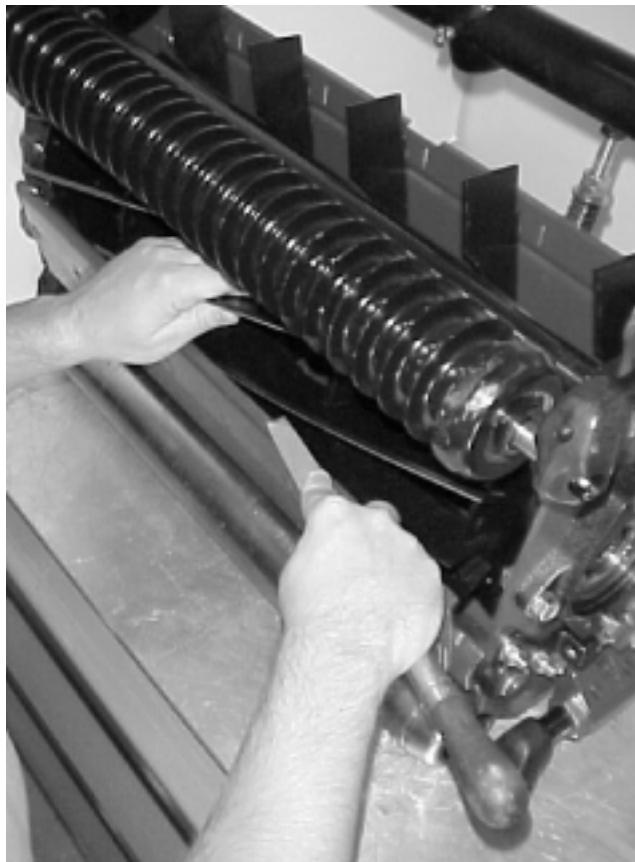

Figure 71
12. When the cutting unit is adequately sharpened, a burr will form on the front edge of the knife. Using a file, carefully remove the burr without dulling the cutting edge (Fig. 71).